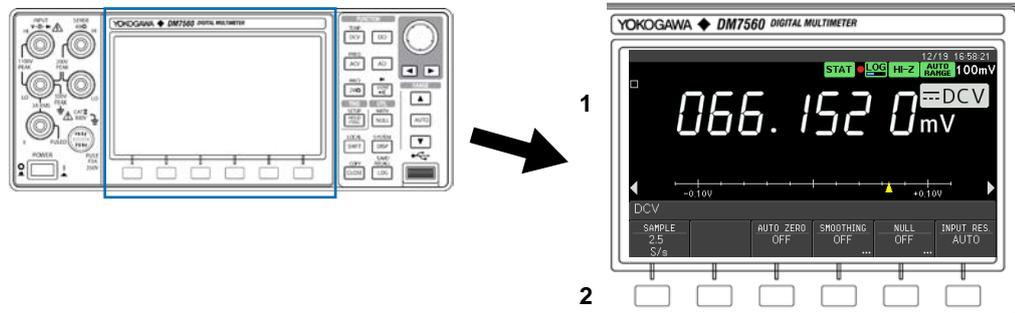

Figure 2.2 Display area
Figure 2.2 shows the display area of the front panel. Table 2.2 describes the name and function of each part.
* Figure 2.2 also shows the exploded view of the area marked in blue.